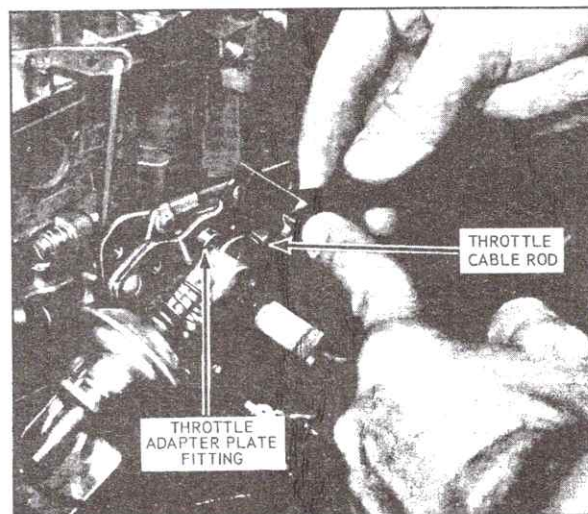

Fig. 6-109 693 Throttle Rod Adjustment
6. If cable rod fitting does not line up exactly with its connecting hole on throttle adapter plate, loosen two cap screws at cable mounting plate on left rear of carburetor, and position cable backward or forward to allow exact alignment into throttle adapter plate hole, Fig. 6-109.